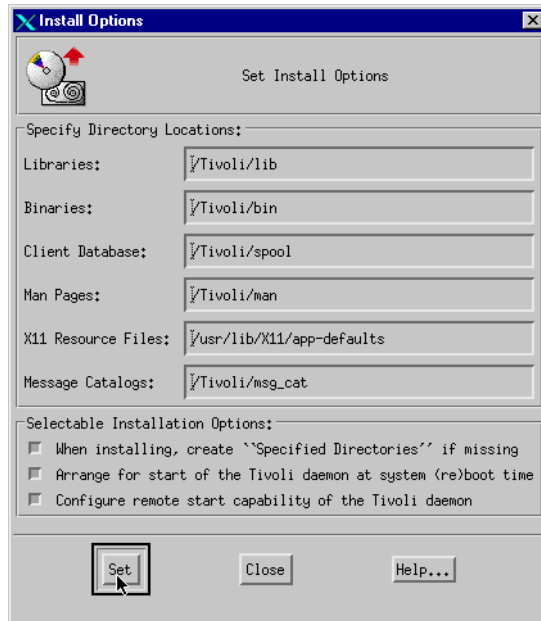

Figure 44. Install Options
13. In the Install Options window, shown in Figure 44 on page 61, you need to specify the correct directories for Tivoli Framework components. You can